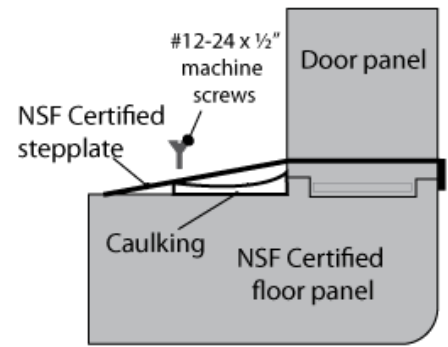

Figure 11
F. When all walls and ceiling panels are in place, lock all vertical panels to floor panels. Door sections are held down through the threshold plate. Drill through thresholds' pre-drilled holes into floor. Secure to floor with screws provided. See Figure 11.